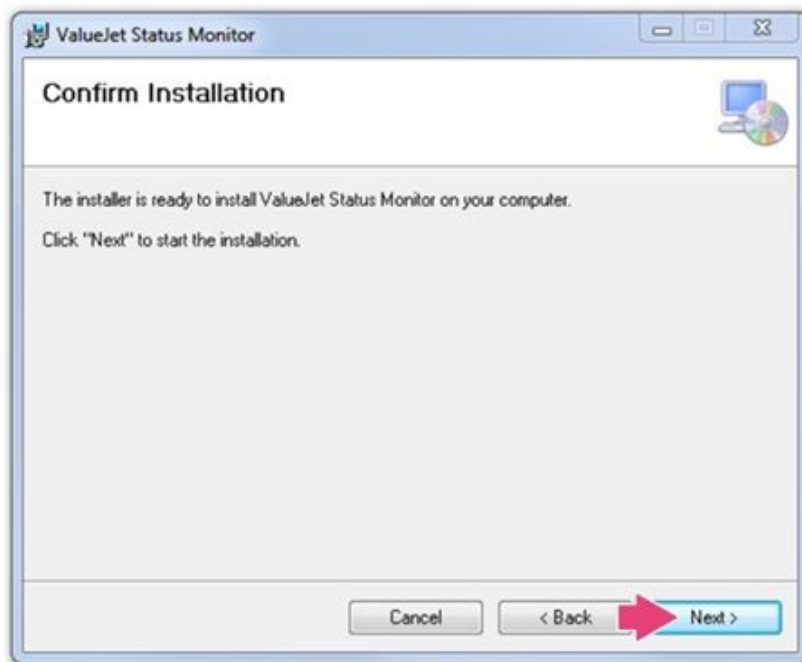

Figure 40
27. The installer is ready to install the ValueJet Status Monitor on your computer. Select **Next** to continue. See Figure 40.